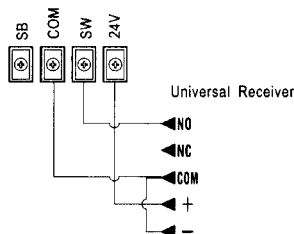

Fig 12B
- 24VDC universal receiver (Fig 12B)